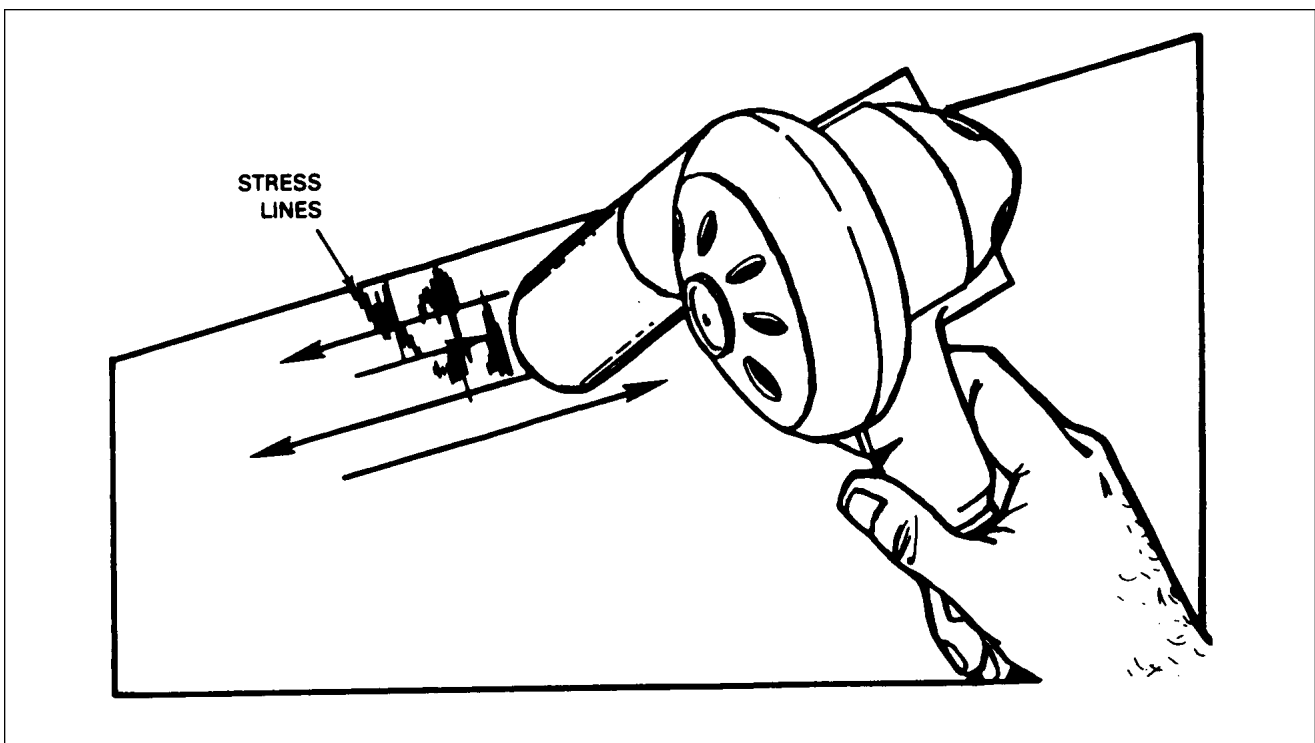

Figure 51-9. Repair of Stress Lines
6. Stress lines: (Refer to Figure 51-9)